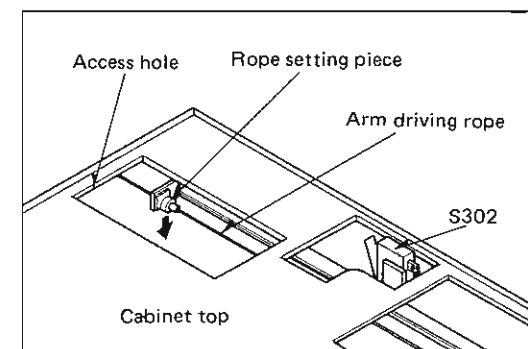

Fig. 16
4. Remove the dust cover and detach the tonearm driving rope out of the access hole. (See Fig. 16)